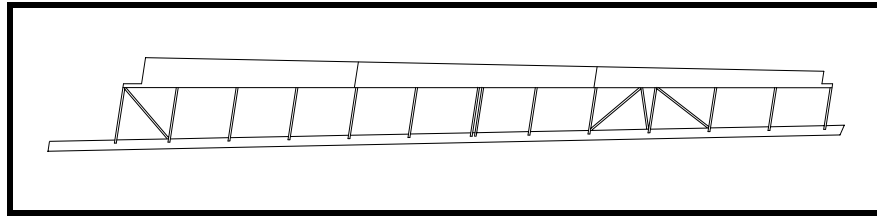

Figure 24
- ❑ Fit and install the upper leading edge skin between Sta. 10 and 14. See Figure 24. This skin should extend to the outboard end of the aileron spar. Do not scarf for the trailing edge skin.